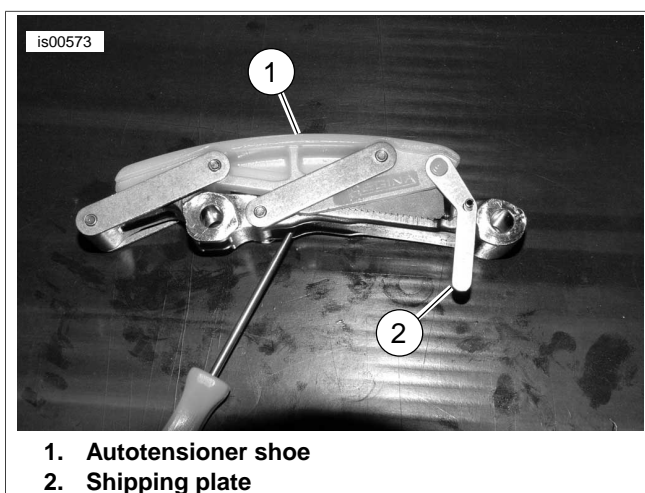

Figure 6. Install Shipping Plate or Tie Strap
3. See Figure 6. Move plastic autotensioner shoe (1) into place as shown.
4. If available, install shipping plate (2) to secure the shoe to the base. If it is not available, secure the shoe to the base with a tie wrap.